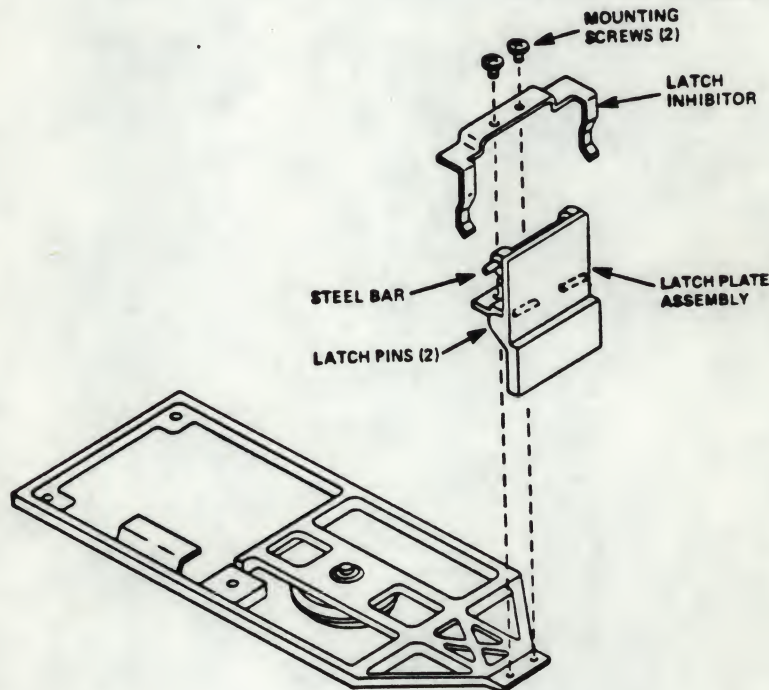

Figure 5-32
5.16.2 With a Phillips screwdriver, loosen the two (2) mounting screws that attach the Latch Plate Assembly to the Cone Lever Assembly (see Figure 5-32).